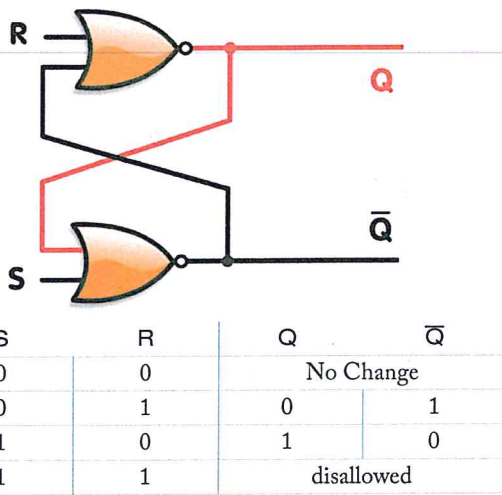

Figure 1-105. RS Flip-flop using Cross-Coupled NOR gates and its truth table.
Flip-flops are bi-stable multi-vibrator circuits that form basic storage units of sequential logic used in shift registers and counters. They have the ability to maintain their state without further application of a signal allowing them to store a bit of data or one place of a larger binary number. Their ability to set one condition and reset or change to an alternate condition results in a latch, also known as a flip-flop. Either cross-coupled NAND gates or cross-coupled NOR gates (*Figure 1-105*) are used to form Reset-Set (RS) flip-flop circuits. Each gate has two inputs and two outputs. The outputs Q and \bar{Q} (not Q) are always in opposite states, so if Q is set to logic 1 then \bar{Q} is reset to logic 0, and vice versa.